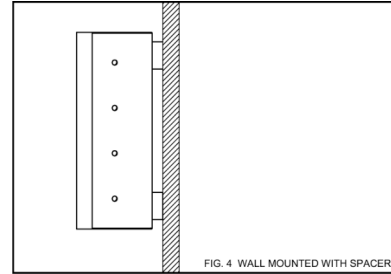

FIG. 4 WALL MOUNTED WITH SPACERS
- If there is concern about the resistor enclosure conducting heat to its mounting surface, then space the unit off its mounting surface approximately 1/4" using flat washers or an extra nut on each mounting bolt. See FIGURE 4.